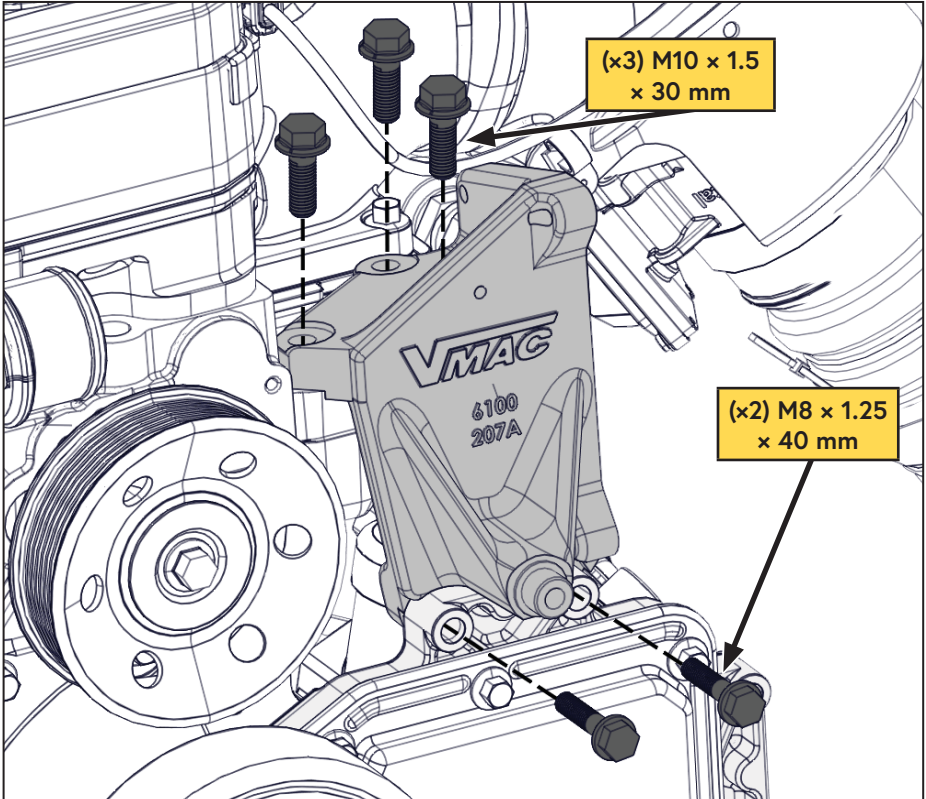

Figure 15 — Install main bracket
- Position the VMAC main bracket onto the driver side of the engine in the location shown (Figure 15).
- Install the (x3) M10 x 1.5 x 30 mm fasteners finger tight into the top of the main bracket (Figure 15).
- Install the (x2) M8 x 1.25 x 40 mm fasteners finger tight into the front of the main bracket (Figure 15).